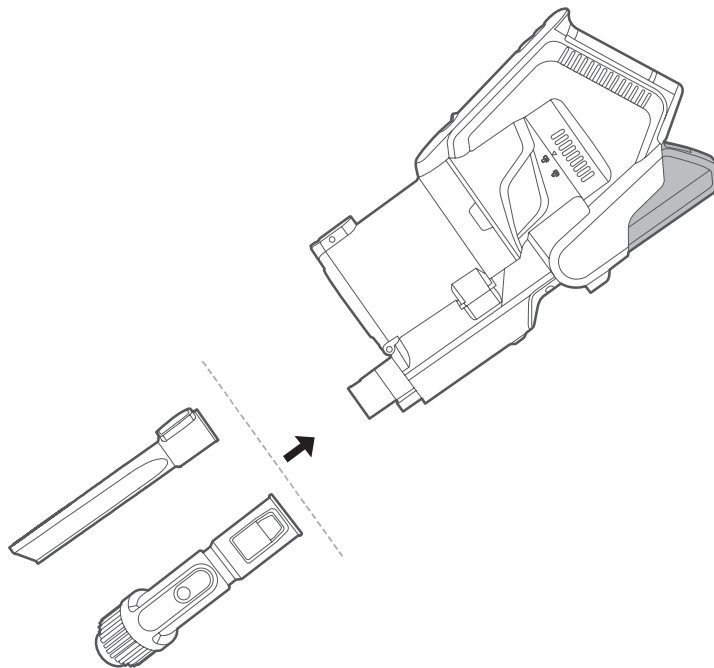

Fig. 9
3. Alternatively **DO NOT USE** the extension tube and fit the crevice nozzle or combination nozzle directly onto the body of the vacuum cleaner (fig. 9). The floor head can be fitted in a similar manner, but if using in this configuration ensure hands are kept away from the floor head during operation – due to a potential entrapment hazard.